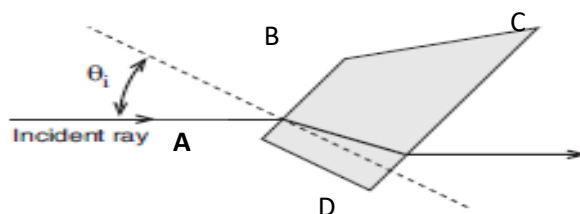

Figure 10.2
1. Draw the outline of the trapezoid on a white paper fixed on a drawing board and label the edges ABCD as in the figure 10.2
8. On new sheets of paper, repeat steps 1–7 for four (4) different angles of incidence.